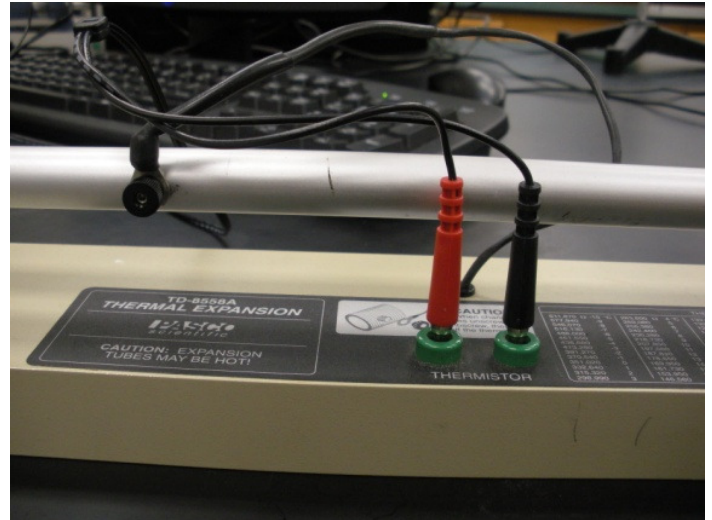

Figure 2
5. Attach thermistor to rod. (Figure 2)